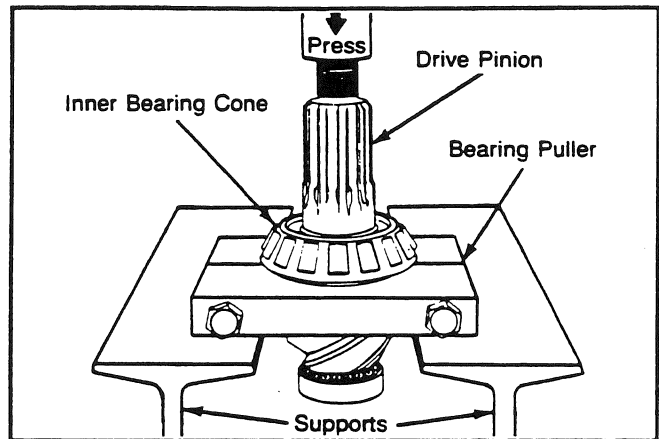

Fig. 24
8. Use a press or bearing puller to remove the drive pinion inner bearing cone. The puller must fit under the inner race of the cone for correct removal (see Fig. 24).